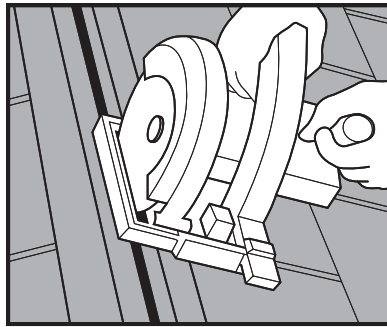

Fig. 1
- 2) For roofs with a ridge board, cut a $\frac{5}{8}$ inch slot in the roof sheathing beyond each side of the ridge board. For an engineered truss roof, cut a $\frac{5}{8}$ inch slot on each side of the ridge (total slot width of $1\frac{1}{4}$ inches). See Figure 1.
IMPORTANT: Start and end your cut 6 inches in from the rake edges (snapping chalk lines will aid in keeping a uniform ridge opening). Set your saw depth to cut the decking only. Do not cut into the roof framing. See Figure 1.